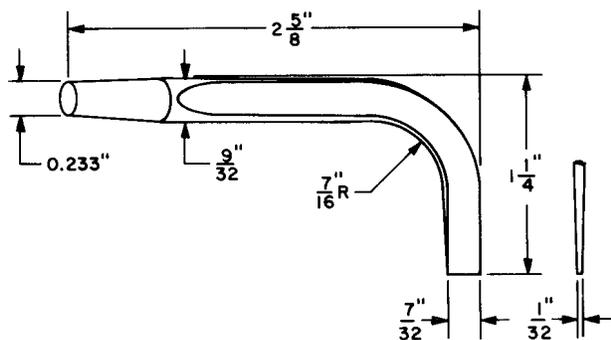

Fig. 4—562B Offset Tip Tool
2.05 **562B:** The 562B offset tip tool (Fig. 4) is for use on U-, Y-, and UA-type relays. It is used in conjunction with the 510C tool.